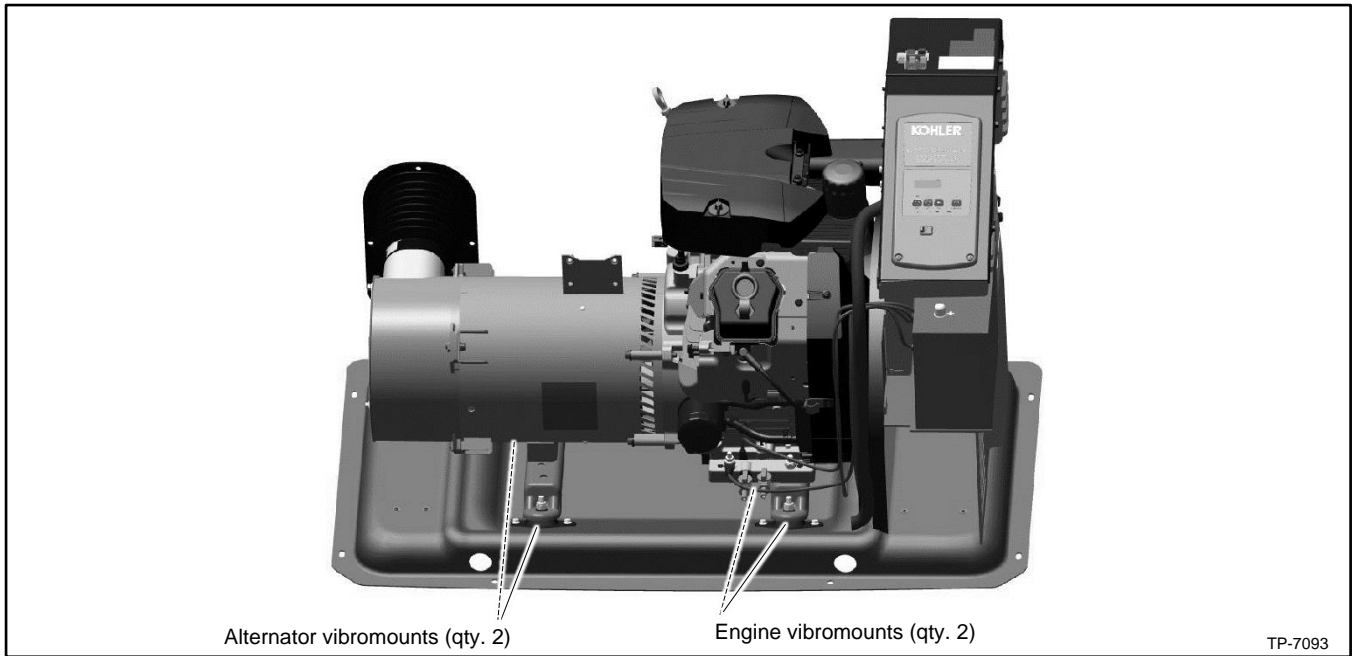

Figure 118 Vibromounts
22. Remove the bolts securing the two alternator vibromounts to the skid. Loosen, but do not remove, the two engine vibromounts. See Figure 118.